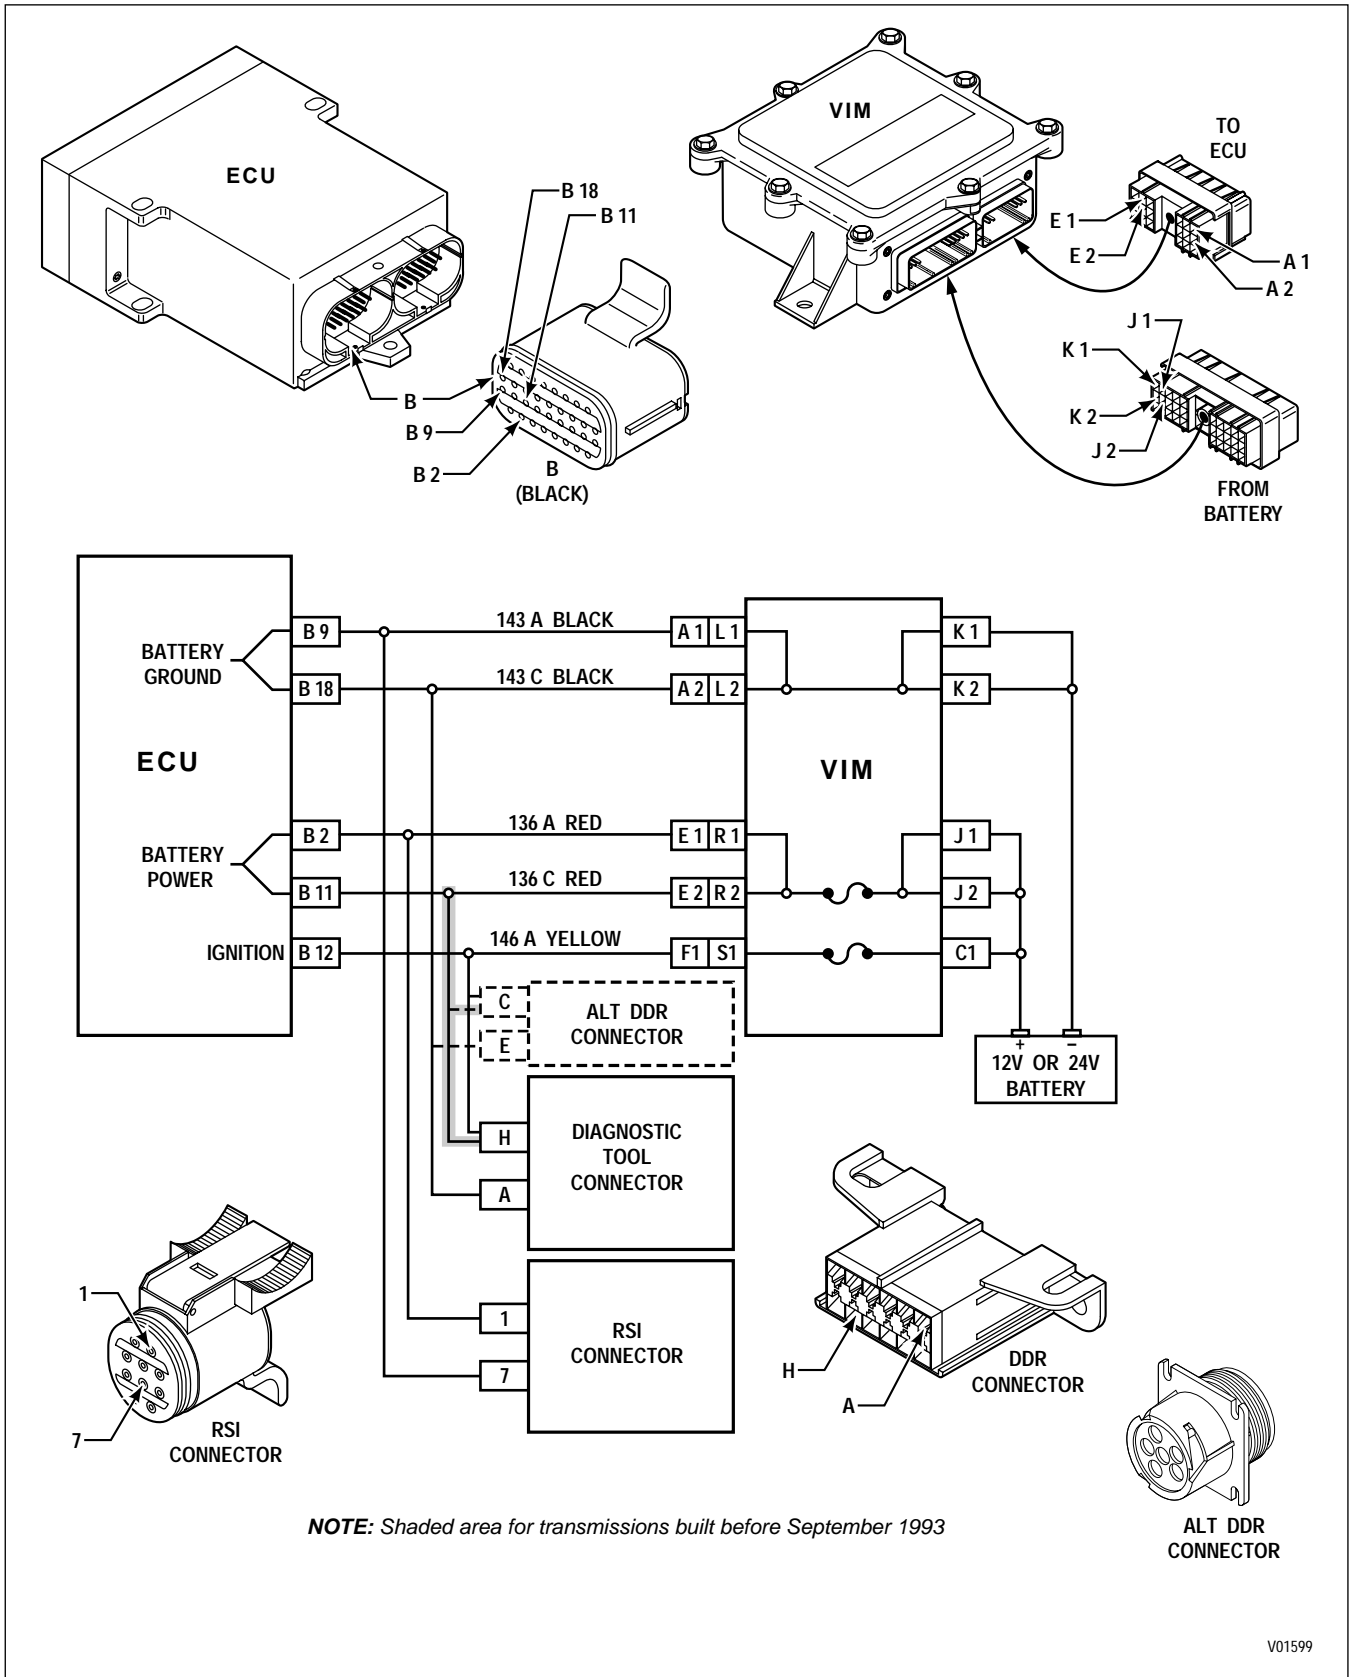

Figure 6-2. Code 13 Schematic Drawing
**CODE 13 XX — ECU INPUT VOLTAGE** (*Figure 6-2*)
### CODE 13 XX — ECU INPUT VOLTAGE *(Figure 6-2)*